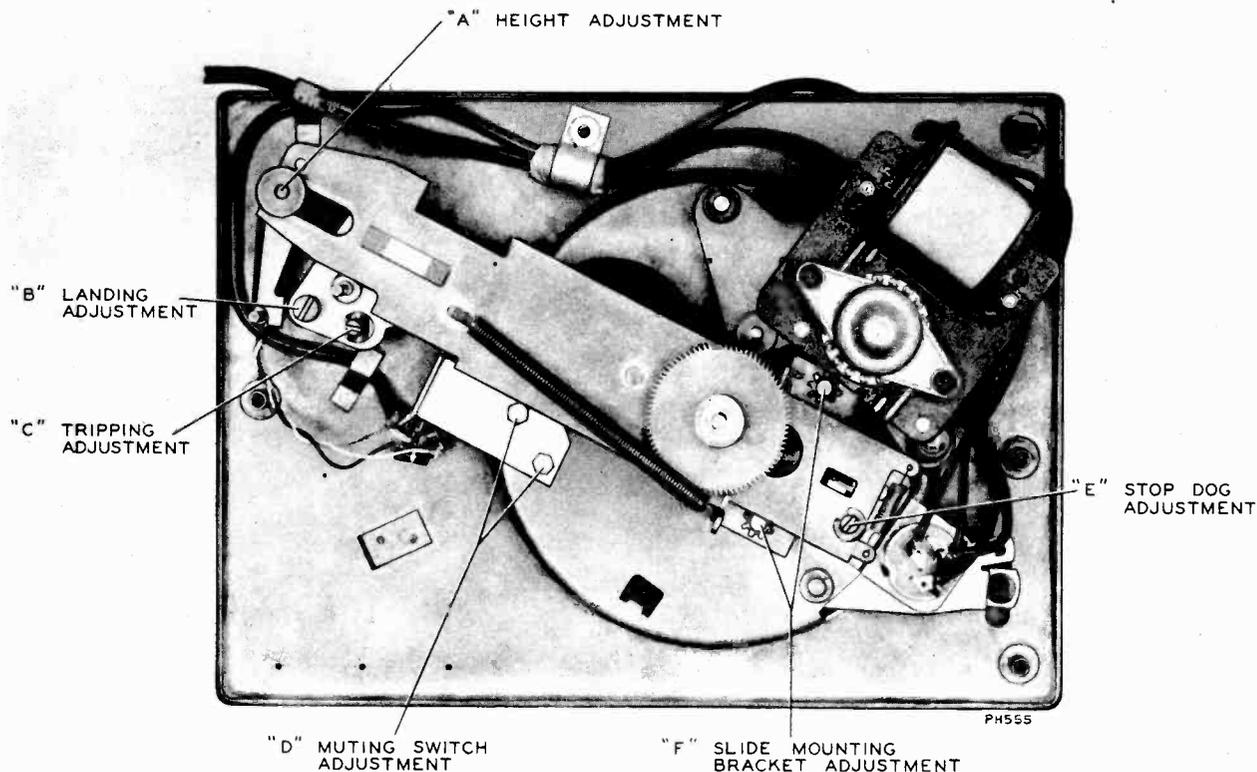

Fig. 38
Under ordinary conditions the landing adjustment is a screw-driver adjustment as shown. The adjustment of eccentric landing adjustment stud (B) gives approximately a 1/4" movement. (See Figs. 38, 40, 41.)
5. Exact landing adjustment can now be made by a screw-driver on stud (B). (See Fig. 38.)
Pickup Height Adjustment (See Fig. 38):
Mounting Bracket Adjustment (See Fig. 38):
Muting Switch Adjustment (See Fig. 38):
Stop Dog Adjustment (See Fig. 38):